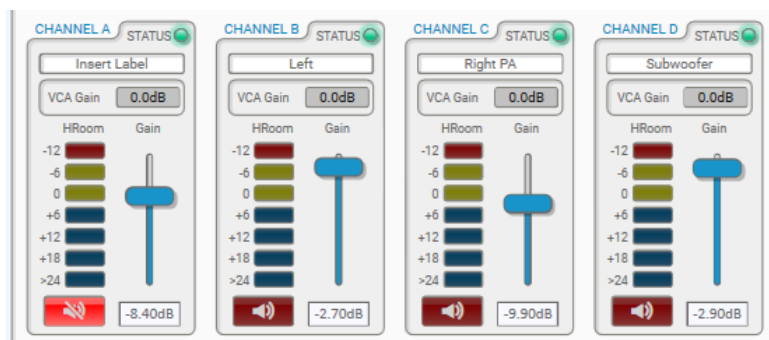

Figure 6 – Screenshot of Channel Section.
- There are fault warnings accompanied by a **red** LED color for the following conditions: Temperature Fault, Fan Fault, Vaux Fault, and Mains(V) Fault. If the user witnesses a **red** LED color on the *General Status LED*, they can check the *General Status Message* text and it will indicate which alarm has been triggered. The *General Status Value* will read; “OK,” “Fault,” “Compromised,” or “Missing,” depending on the condition.
- The Channel Section is made up of the following controls (Figure 6):